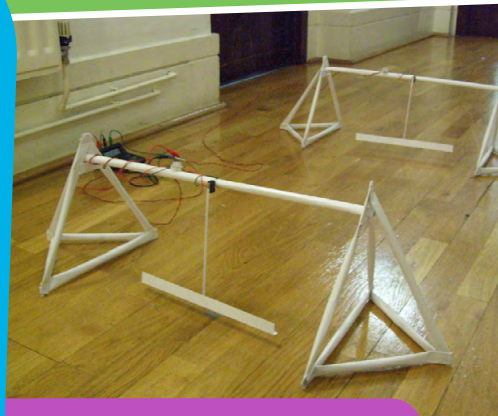

FIGURE PA 4.01
14. Position the assembled timing gates so they are one metre apart and in line as in figure PA 4.01 and figure PA 4.08.